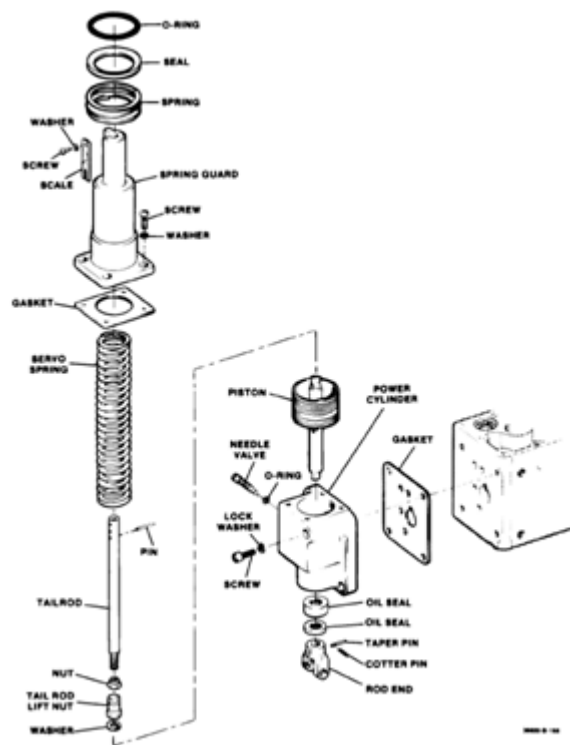

Figure 5-29. Power Servo
32. Power servo disassembly (Figure 5-29).